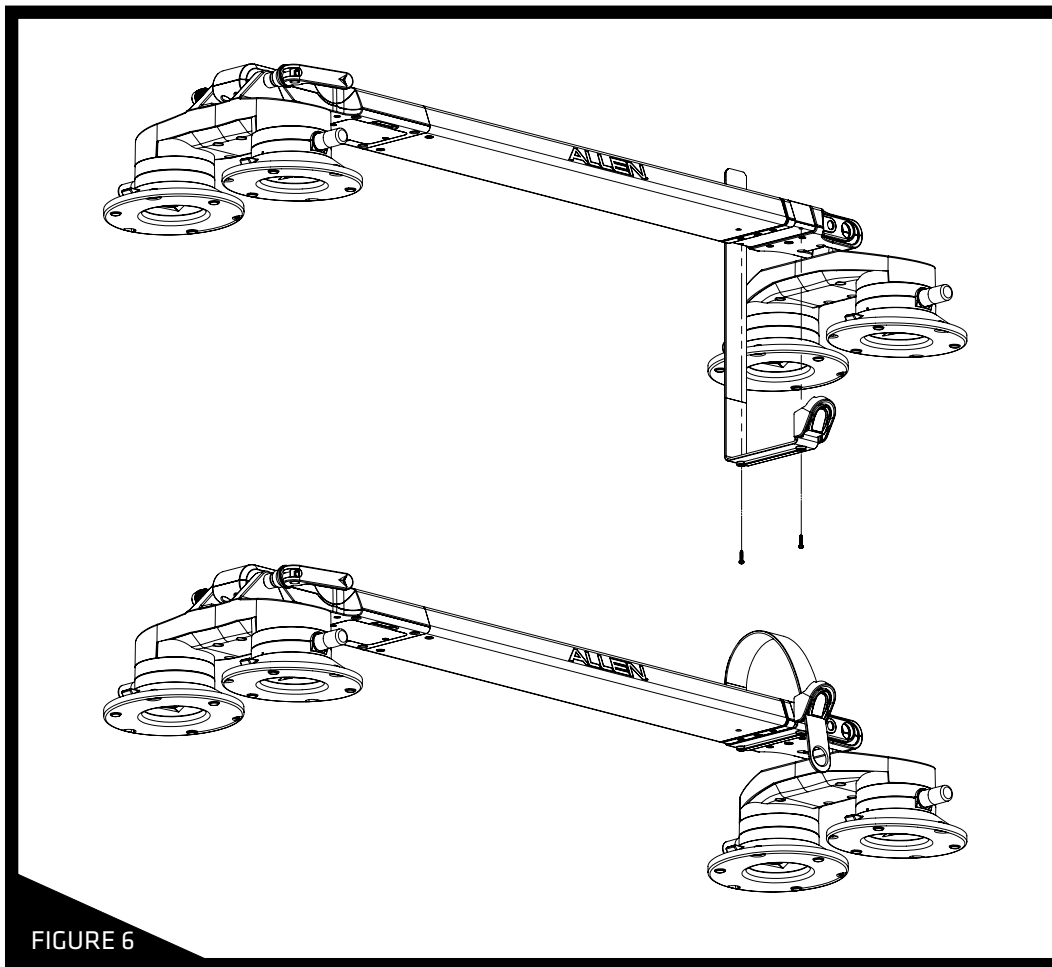

FIGURE 6
**STEP 6:** Locate the Rear Wheel Strap in the Box. Use the Phillips Head Screw Driver (included) to attach the Rear Wheel Strap with the 2X - M3 12mm Washer Head Screws provided on the bottom of the Rear Unit Assembly as shown in **Figure 6**. Place the strap from the bottom with the strap facing upwards in the preferred orientation and ensure that the holes are lined up with the holes in the Rear Unit Assembly. Secure with 2X - M3 12mm Washer Screws provided. Feed the end of the ratchet strap through the top of the buckle on the opposite side.